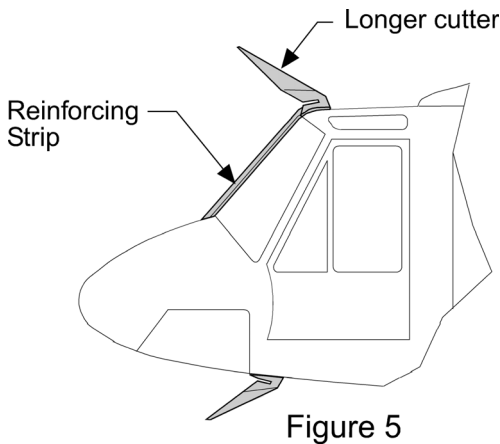

Figure 5
2. All CH-146s are fitted with wire-strike protection devices above and below the forward cabin. See Figure 5. **NOTE: These can be installed before painting but beware, they will be fragile.** Glue the upper cutter (part 5) right at the forward edge of the roof line. The lower cutter (part 6) is in line with the rear of the nose windows. Each cutter is